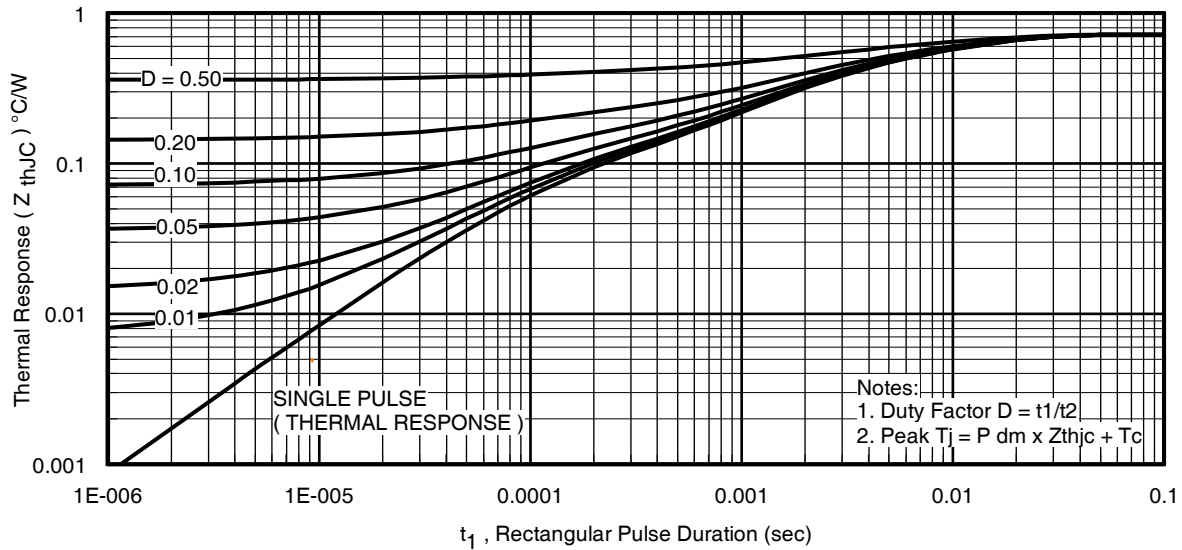

Fig 14. Maximum Effective Transient Thermal Impedance, Junction-to-Case
| I_{AR} | Avalanche Current ^② | See Fig. 14, 15, 22a, 22b | A |
Notes on Repetitive Avalanche Curves, Figures 14, 15:
7. ΔT = Allowable rise in junction temperature, not to exceed T_{jmax} (assumed as 25°C in Figure 14, 15).